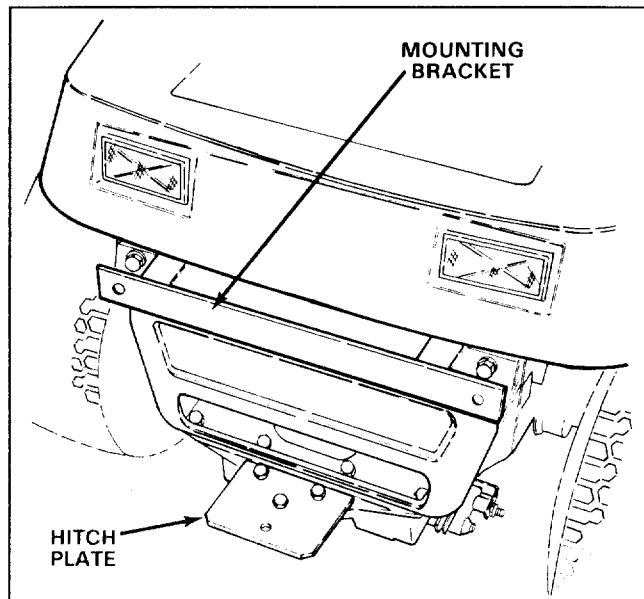

Figure 2
- Secure mounting bracket to rear frame with (2) 5/16-18x3/4" lg. capscrews and locknuts, as shown in fig. 2.
- Loosely secure hitch plate to top of tractor hitch with (3) capscrews (7/8" lg.), (3) locknuts and (1) washer. Washer to be used under large hole in tractor hitch (Fig. 2).